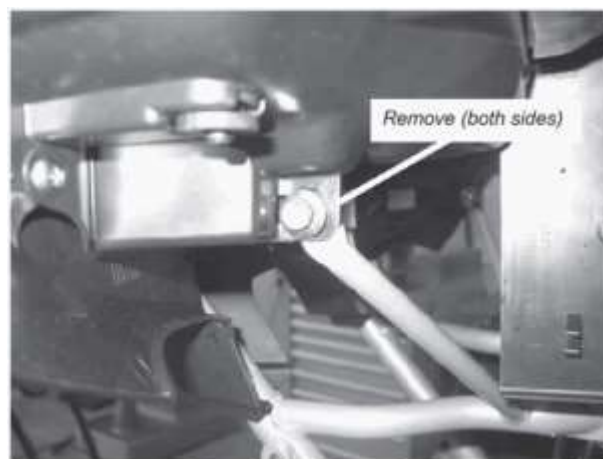

Figure 3 Front Bumper Bolts
3. Remove the (2) 6mm bolts that attach the front bumper to the plastic headlight assembly, "Figure 3"